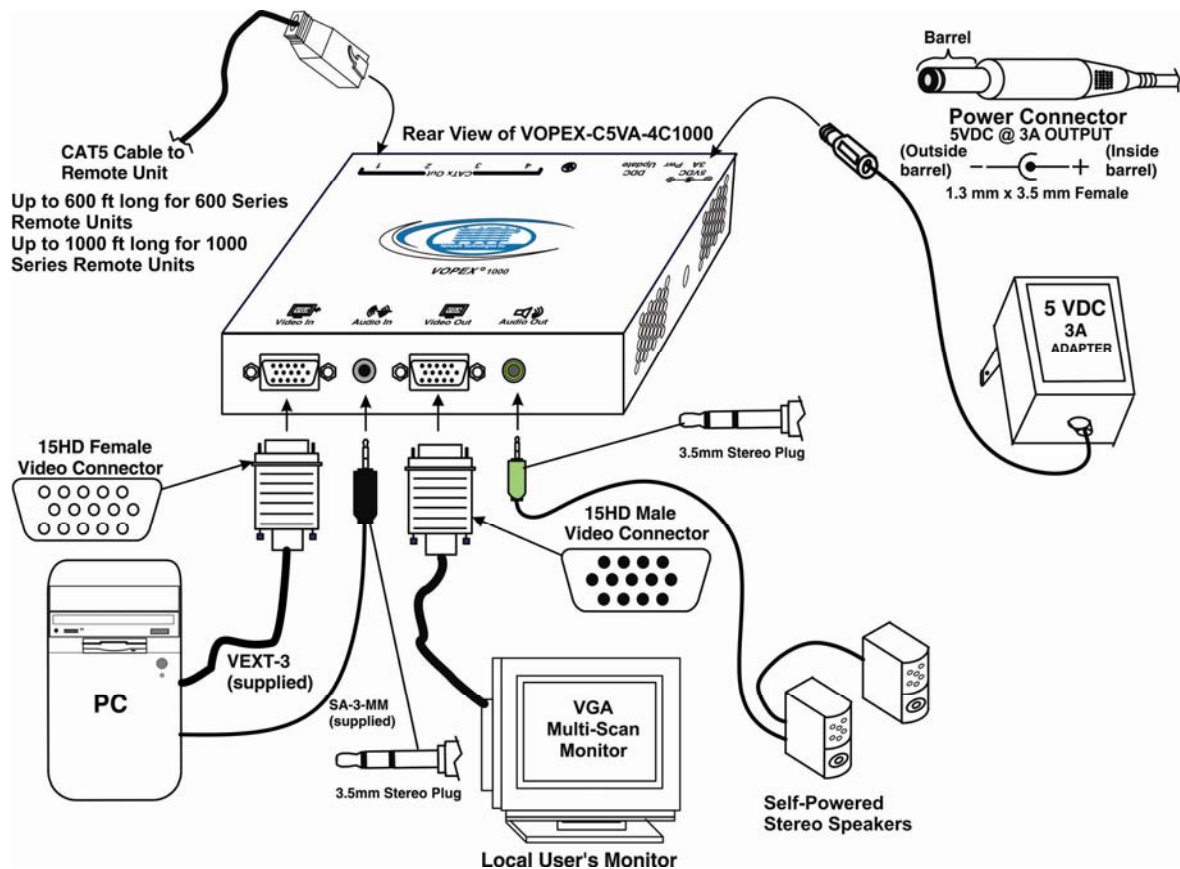

Figure 1- Connecting a VOPEX to a CPU
1. Make connections between the VOPEX and the audio and video source(s). (See Fig. 1.)
2. Connect the **5VDC 3A** power connector to the power port on the VOPEX (shown in Fig. 1- Page 5).